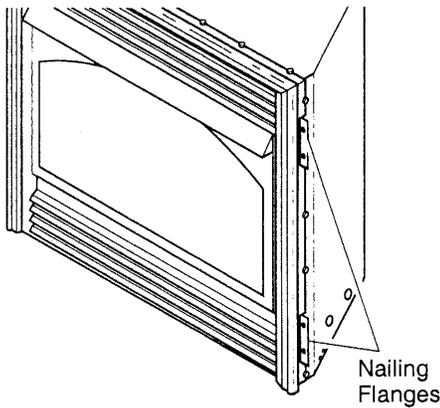

Figure 23 - Location of Nailing Flanges
- Break off nailing flanges (see Figure 23, page 13) with hammer or pliers.